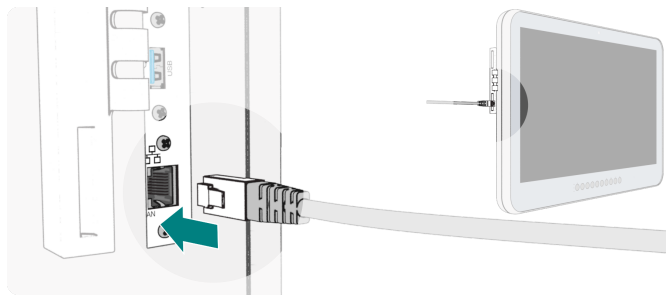

Figure 5: Ethernet connection (shown for CORE 24 model)
4. If configured for wired network connectivity, make sure Ethernet is connected (Figure 5). If the **CLEAR GUIDE CORE** has multiple Ethernet ports, be sure to use the correct one.